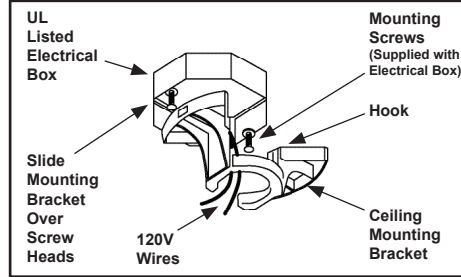

Figure 13
1. Pass the 120-volt supply wires through the center hole in the ceiling mounting plate as shown in Figure 13.
2. Install the ceiling mounting bracket on the outlet box, by sliding the mounting plate over the two screws provided with the outlet box (Figure 13). When using “close-to-ceiling” mounting, it is important that the mounting bracket be level. If necessary, use leveling washers (not included) between the mounting bracket and the electrical box. Note that the flat side of the mounting bracket is toward the electrical box (Figure 13).